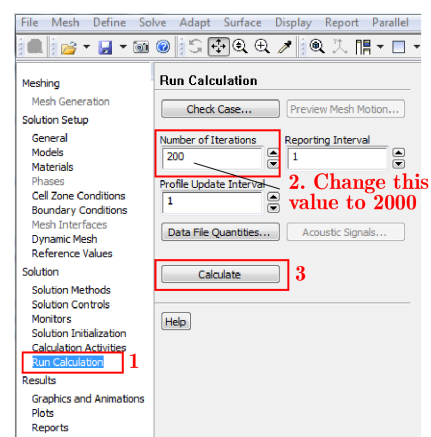

Figure 6.3: Using the graphical interface for manually starting the simulation. Page 20
- Click calculate. (see Figure 6.3)